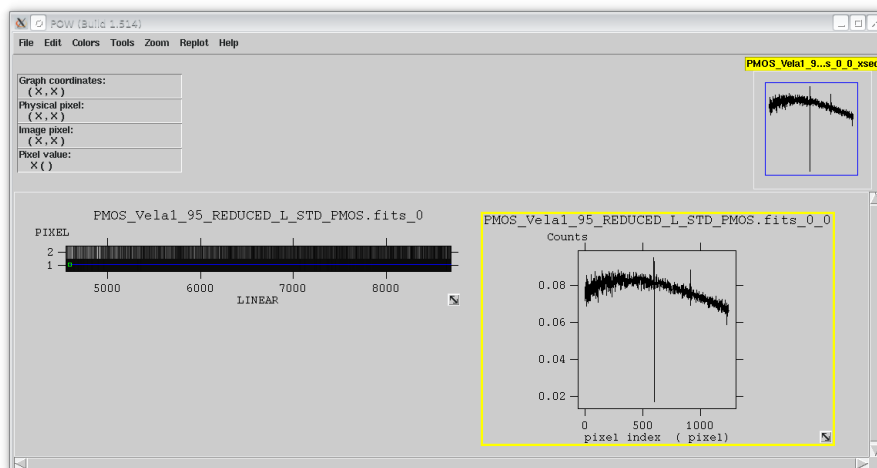

Figure 9.6: The Stokes  $L$  (fractional polarization) spectrum of the polarized standard star Vela1-95.
In Fig. 9.6, you see a plot of the Stokes  $L$  (fractional degree of polarization) parameter obtained for the second demo data set produced by the `fv`12 tool:
- left-click in the image display and draw the line across the image to get the profile (see Fig. 9.6).